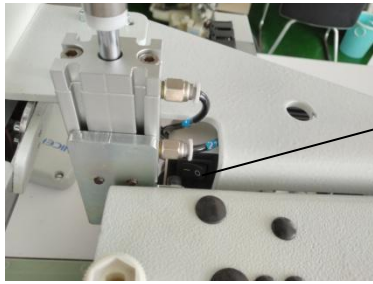

Fig 27
2.14. Adjustment of the pulling function of electromagnet. (fig 27)